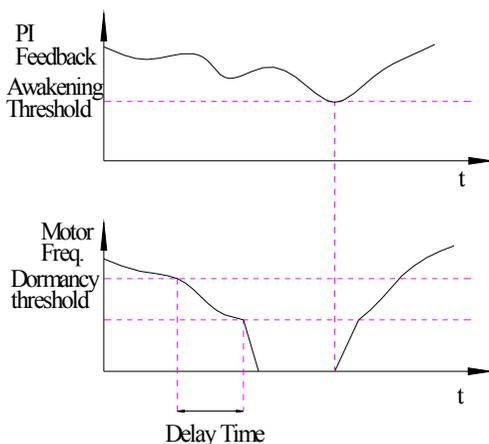

Fig. 5-7-3 Dormancy and Awakeing diagram
- ◆ To awake the device, the pressure feedback must be reduced to awakening threshold. Then the variable pump would startup. As shown in Fig.5-7-3.